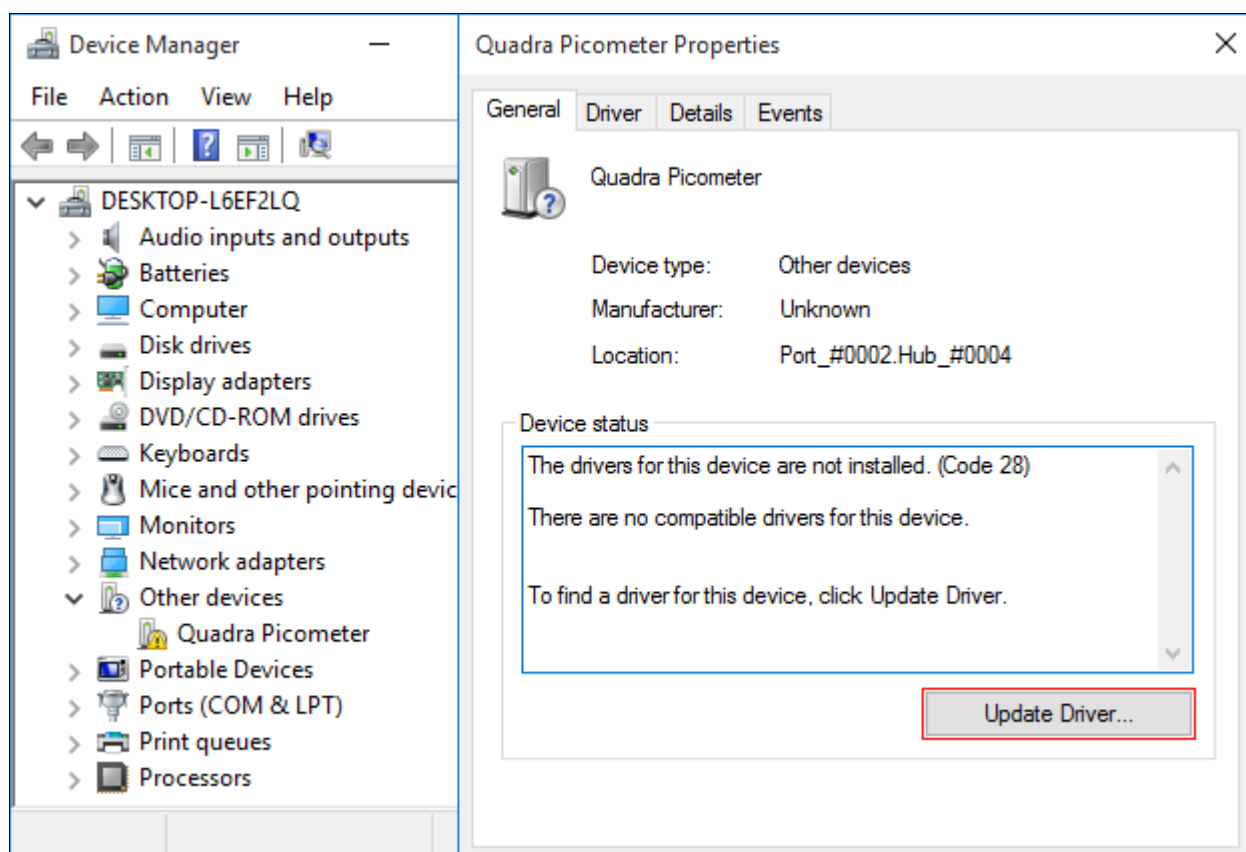
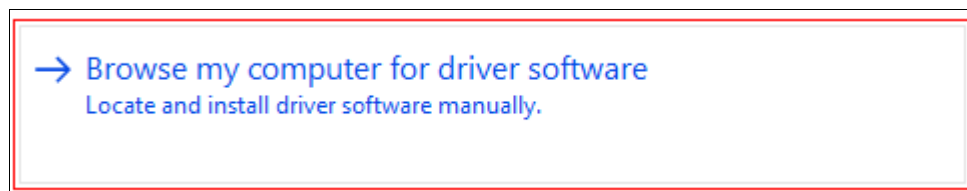
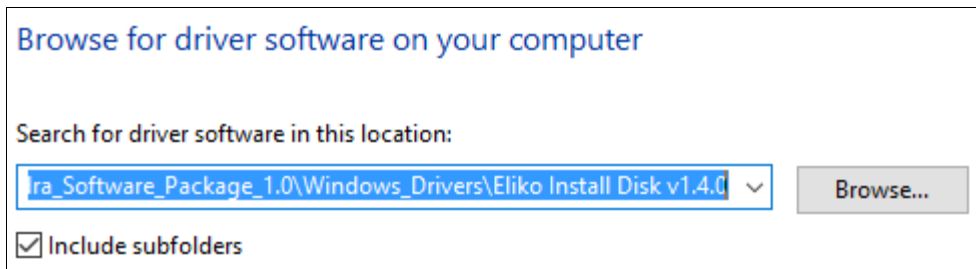
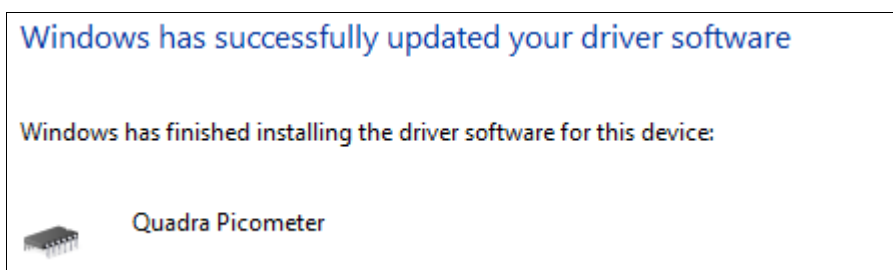

Figure 7 Update Device Drivers from Device Manager
Figure 8 Select Driver Software Source
Figure 9 Select Device Drivers Folder
Figure 10 Device Driver Install Finished
1. To start with driver installation, connect the Quadra device to a USB port. At initial connection, Windows is unable to locate drivers for the device. Open device manager by typing *Device manager* in Windows *Start Screen*. Locate device named as *Quadra Picometer* under *Other devices* in the *Device Manager*. Right-click and choose *Properties* to open device properties window and on *General tab*, click *Update Driver* as shown on **Figure 7**. In the next dialog, select *Browse my computer for driver software* (**Figure 8**). Browse for the folder *\Windows Drivers\Eliko Install Disk v1.6.0* in the Quadra software package (**Figure 9**). If driver installation finishes successfully, then the confirming dialog (Figure 10) will be displayed.